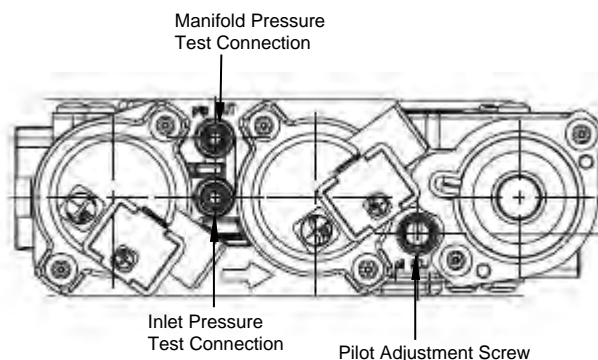

Figure 29. 'Hi-Lo' Adjustment on the SIT Proflame 2 gas valve.
1. **Locate Pilot Adjustment Screw.** (See figure 29)